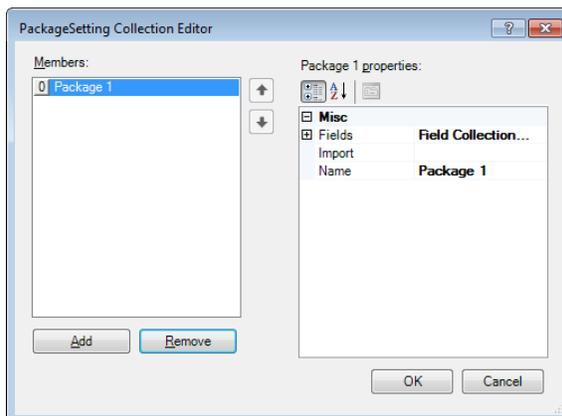

Figure 21: PackageSetting Collection Editor Window
5. Click *Package Collection*, and then click the  button to open the *PackageSetting Collection Editor* window (*Figure 21*).